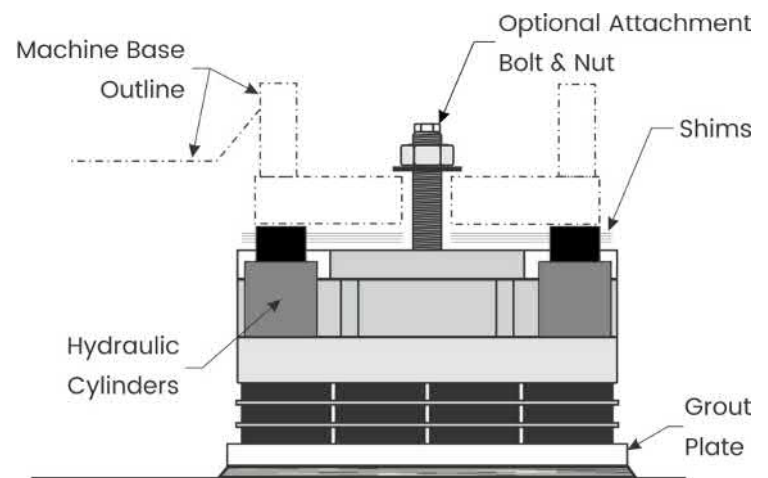

Figure 8
- **MXBP** isolation elements can use external lifting devices or hydraulic cylinders can be placed within the element to raise the machine foot off the element to insert shims. See Figure 8. **Note:** The hydraulic cylinders should be connected together via a manifold to equalize the hydraulic pressure. This ensures uniform lifting pressure and loading of the element.